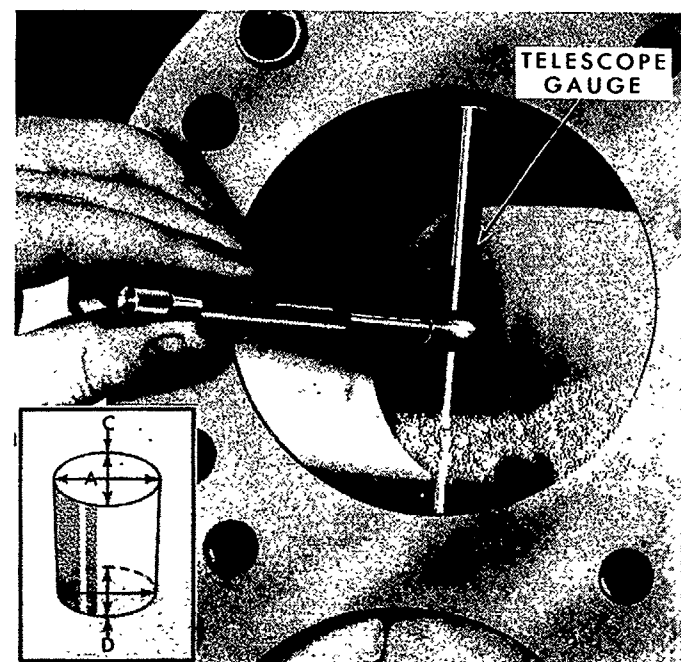

Figure 58
2. Inspect or measure the cylinder bores for waviness, scratches, scuffing, out-of-round, wear, and taper. A wavy cylinder wall has a series of parallel lines or rings worn around the cylinder, generally found at the top or bottom of the piston ring travel. These irregularities and scratches, although in most cases too small to be measured with the naked eye, usually can be felt by running a finger over the cylinder surface. A scuffed cylinder can be identified by discoloured areas. The colour varies from a light straw to dark blue, depending on the severity of the scuffing. Out-of-roundness, wear, and taper can be detected with a cylinder bore gauge using the procedures given in step 3, see Figure 58.